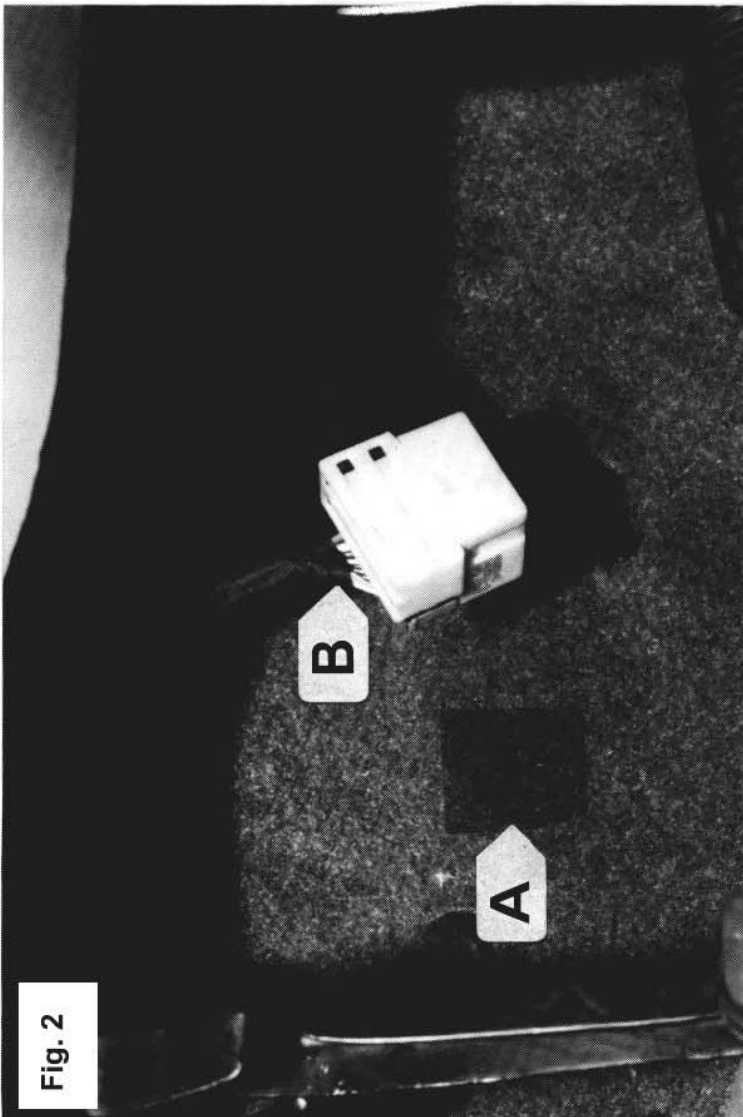

Fig. 2
- 3) Drill a 1/2" hole through firewall between brake cable and steering column as marked in fig. 2-A. Feed harness through to grommet. Route harness to fuse box on radiator support bracket.
- 6) Connect the green wire from idler to the white w/tan stripe wire (14 AWG) from the brake light switch (fig. 2-B). This wire should be +12v only when the brake is pressed.